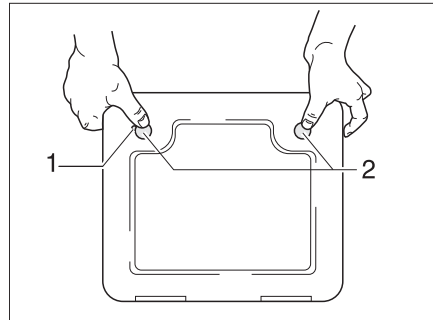

Fig. 299 Flap for the toilet cassette
- Open the flap for the cassette on the outside of the vehicle. Insert the key into the locking cylinder of the push-button lock (Fig. 299,1) and turn a quarter turn.
- Press both push-button locks (Fig. 299,2) simultaneously with your thumb and open the flap for the cassette.